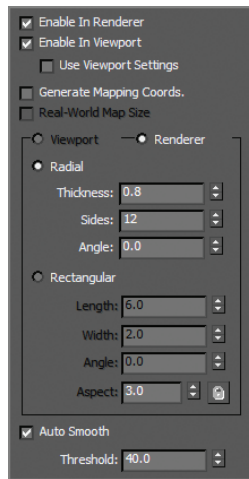

FIGURE 4.25
25. Select Radial and change Thickness to 0.8, as shown in Figure 4.25.